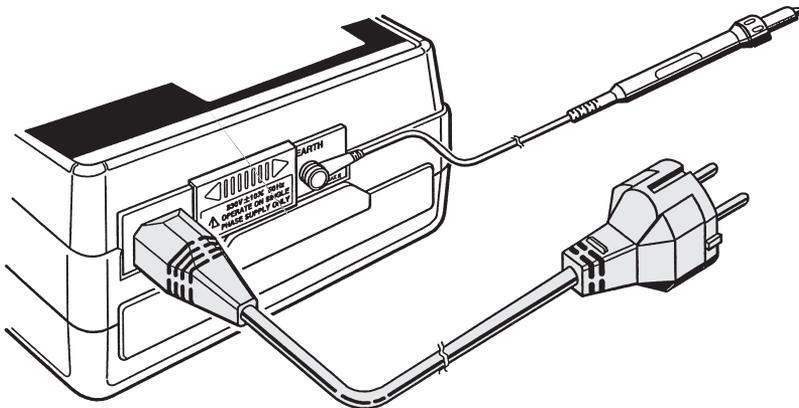

Fig 9
2. Connect the mains lead to the IEC socket of the instrument(see fig9).
4. Connect the instrument to the RCD to be tested either via a suitable socket outlet (see fig 9) or using the OMA DIEC(Model7133B) test lead set (see fig 10) .